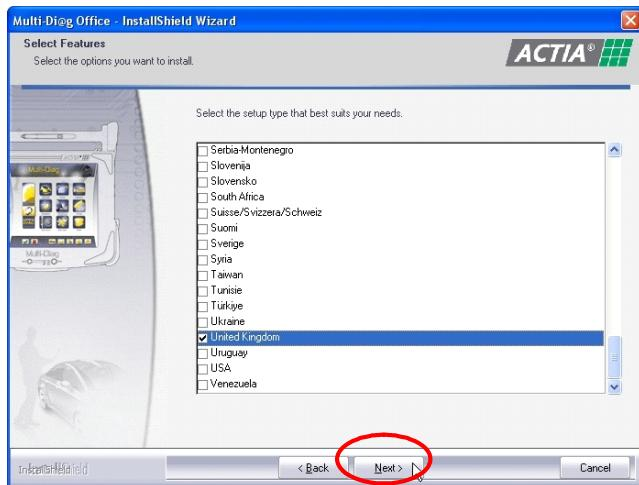
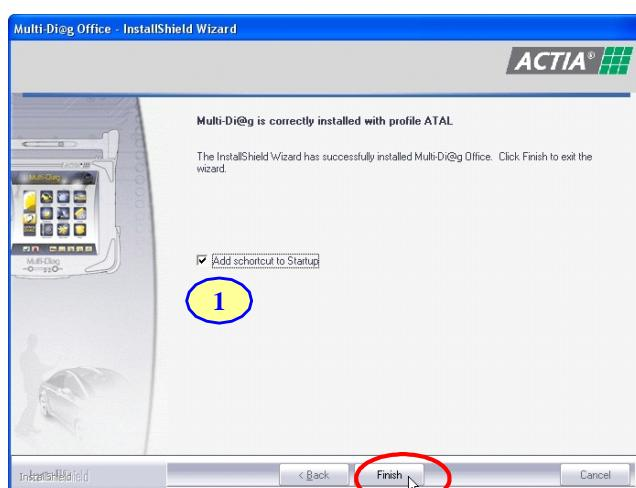

Fig. 12 – Select the setup type
Fig. 18 – Click on "Finish" to complete the installation
In case the selected installation site is the "Czech Republic" (see Fig. 12), the ATAL profile is selected by default (accompanying Fig. 18). **The preselected profile should not be changed!**
**Alternative – see Fig. 18**
For the „Czech Republic“ installation site only (see Fig. 12) and profile ATAL (see Fig. 14).